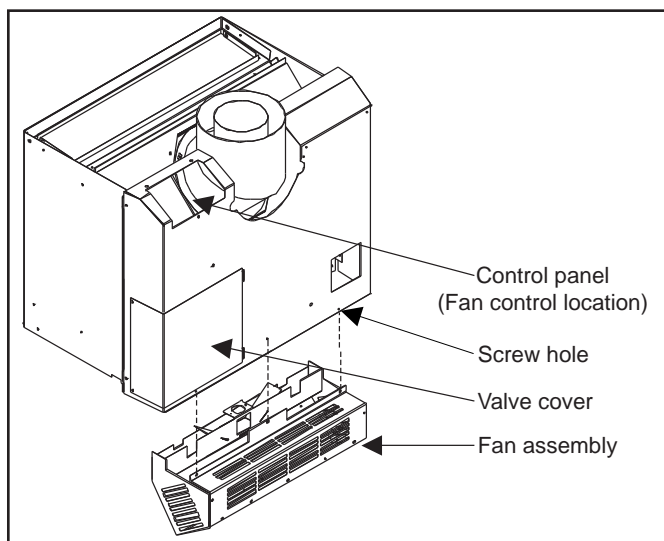

Figure 58: Optional Fan Kit Installation.
2. Place the fan assembly behind the unit and secure with the three screws provided, (as shown in Figure 58).